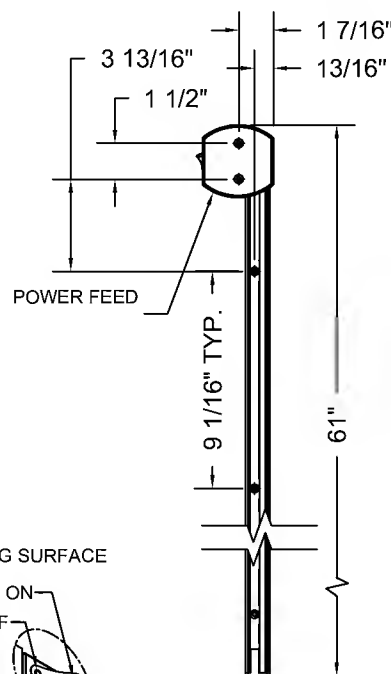
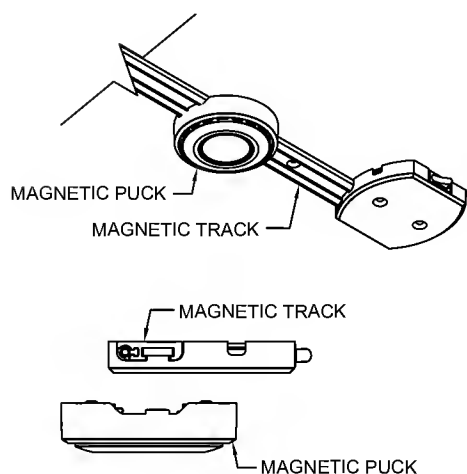

FIG.2
FIG.4
3. Track is field cuttable. To cut track: mark end furthest from POWER FEED and cut with a hacksaw (Note: Recommend using a 24T/in or higher saw blade) and debur cut end (FIG.2).
5. To mount MAGNETIC TRACK align SCREWS provided (#8 x 1 cross recessed flat head screw) with mounting holes and drive into MOUNTING SURFACE, if hardware is appropriate for MOUNTING SURFACE type. If SCREWS provided are not appropriate use appropriate hardware for MOUNTING SURFACE type (by others). Then screw down tight to firmly secure track. (FIG.2&3).
6. Make sure that POWER SWITCH is in "OFF" position then run POWER CORD to remote power supply LED-RPS-50 (not shown) and wire POWER CORD into 24VDC side of power supply (See instruction sheet IS-LED-RPS-50 for detailed instructions.). A maximum of (7) CS101 series MAGNETIC PUCKS can be used with CS100 series MAGNETIC TRACK/LED-RPS-50 power supply.
7. Attach MAGNETIC PUCK to MAGNETIC TRACK as shown (FIG.4).